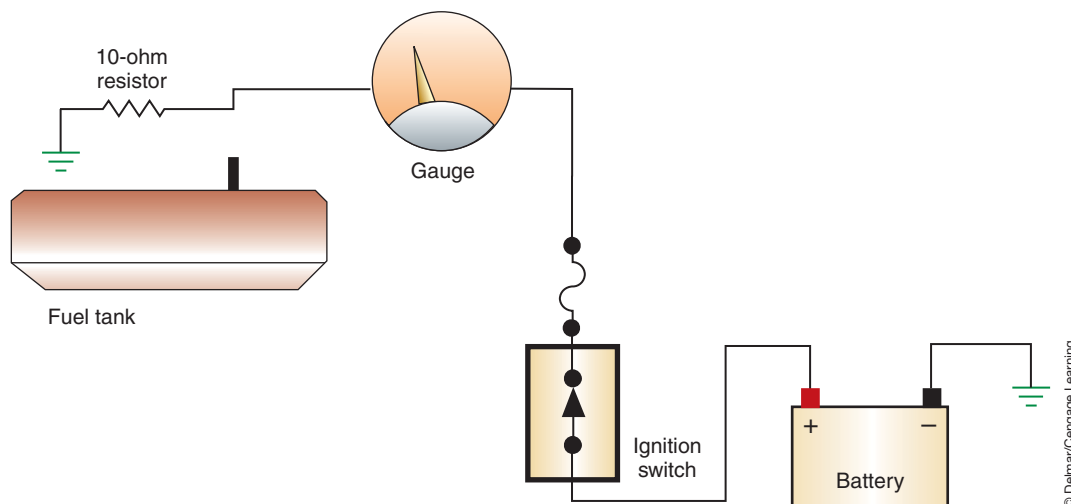

FIGURE 13-17 Testing gauge operation by putting the gauge lead to ground through a resistor. The resistor is used to protect the circuit.
5. Connect a 10-ohm resistor in series with the lead from the gauge to the sending unit. Connect the lead to ground (Figure 13-17).